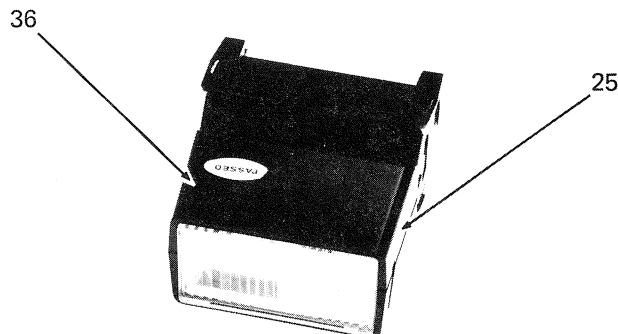

Figure 2-8. Removal of Body Case NB
- C. Remove one screw (36) on the body case NB (25). Lift up body case NB, being careful not to touch the PC board. (Figure 2-8)